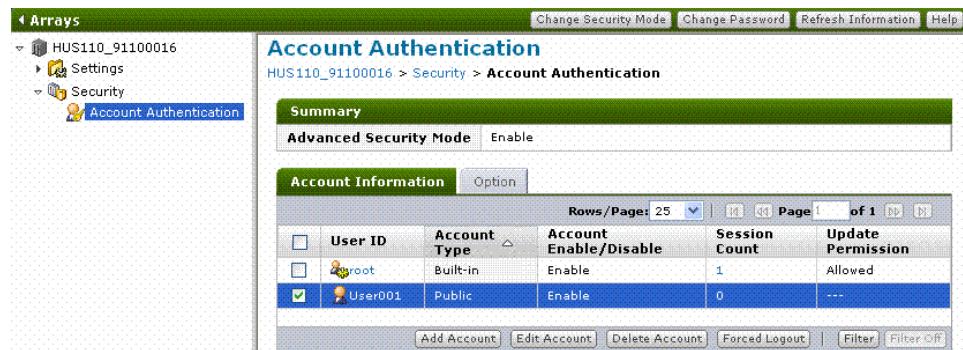

Figure 5-2: Account Information window
5. The account information appears, as shown in Figure 5-2 on page 5-16.